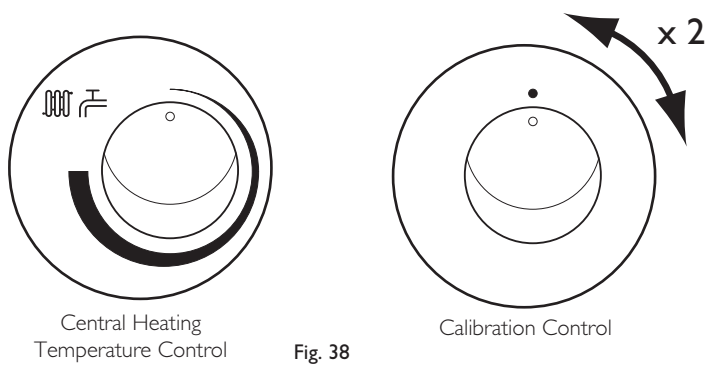

Fig. 38
3. Turn both temperature control knobs fully anticlockwise, then quickly turn the DHW temperature knob 1/4 clockwise twice and back fully anticlockwise (Fig. 38).